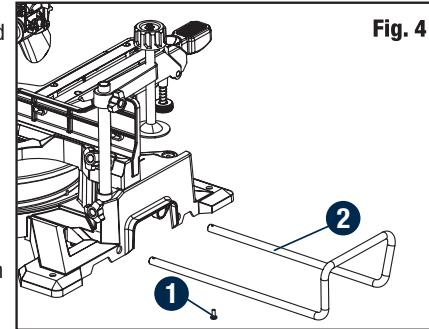

Fig. 4
- Loosen the fence lock knob (1) to clear fence slots.
**INSTALLING EXTENSION BARS (Fig. 4)**